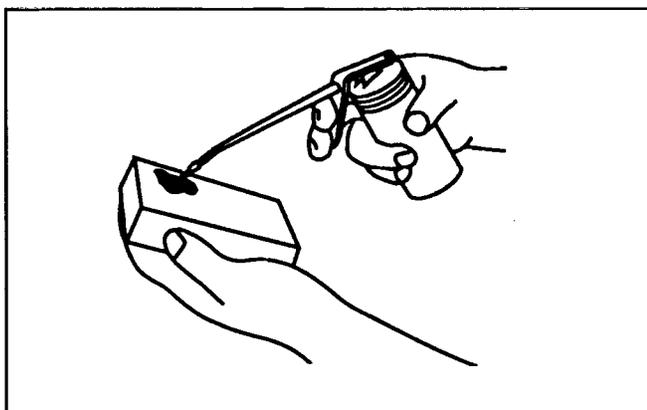

Figure 3
3. Apply one tablespoon of SAE 30 oil to the air filter (**Figure 3**). Lightly squeeze filter until oil is distributed evenly throughout filter. Blot lightly with paper towel to remove excess oil.